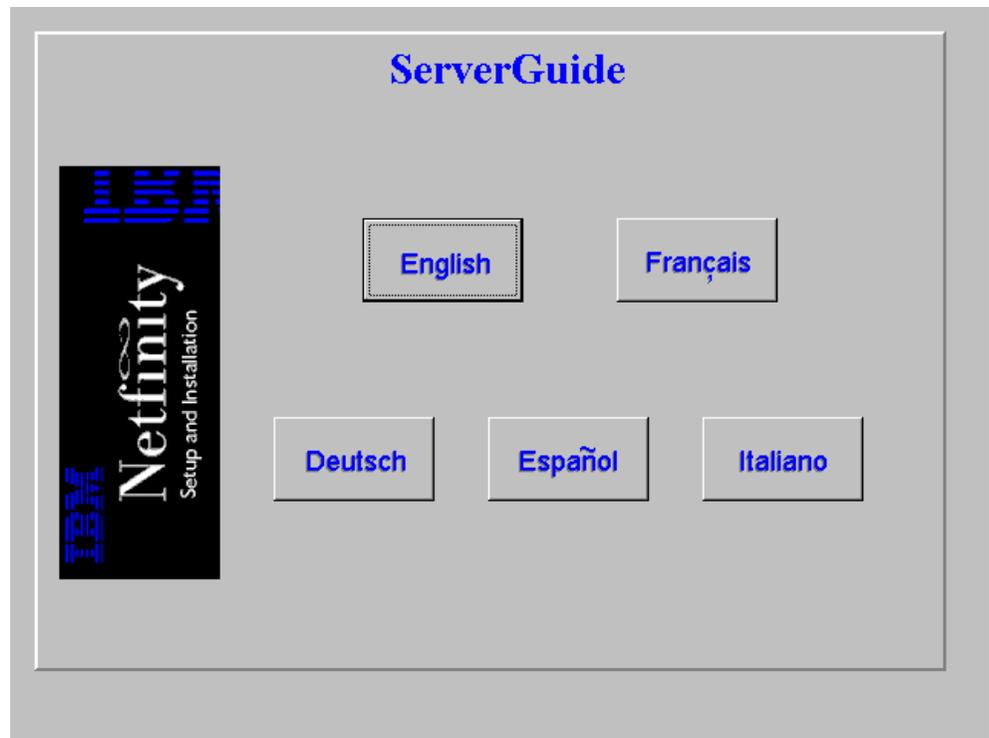

Figure 30. Language selection window
1. Boot with the Netfinity Setup and Installation CD. The quick configuration program launches and presents you with a language selection window, as shown in Figure 30. Select the appropriate language by clicking the corresponding button. The selection of language determines how ServerGuide will be displayed and which language versions of utilities and firmware updates to apply.